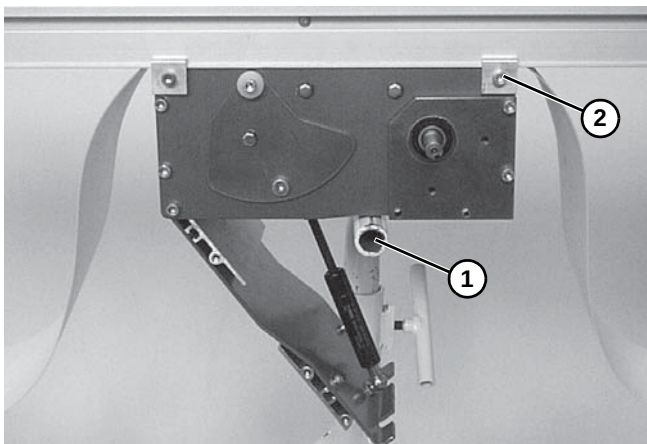

Figure 26
1. Place temporary support (**Figure 26, item 1**) underneath the drive module.
2. Loosen clamp screws (**Figure 26, item 2**) on each corner of the module. Remove the module.
5. Install the drive module onto the conveyor and attach clamps (Figure 26, item 2) in each corner. Tighten screws to 80 in-lb (9 Nm).